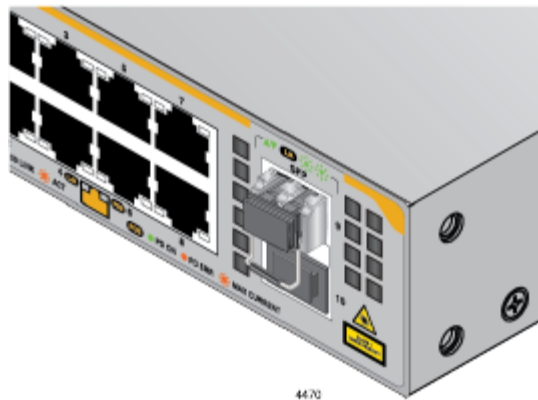

Figure 26. Position SFP Handle in Unlocked Position
3. Unlock the SFP module by moving the handle. If the transceiver is in a top slot, move the handle to the down position. Refer to Figure 26. If the transceiver is in a bottom slot, move the handle to the upright position.